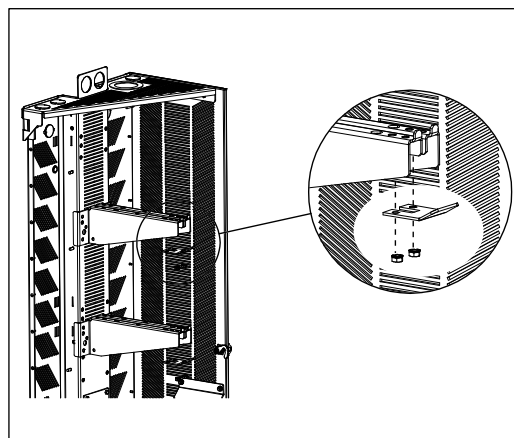

Figure 7 Mount Stiffener Plates
5. Install the stiffener plates on the front of each pair of hanging brackets. The stiffener plates fit onto the two studs on the underside of the hanging brackets (Figure 7). Secure using two 1/4-20 Keps nuts included with the kit.